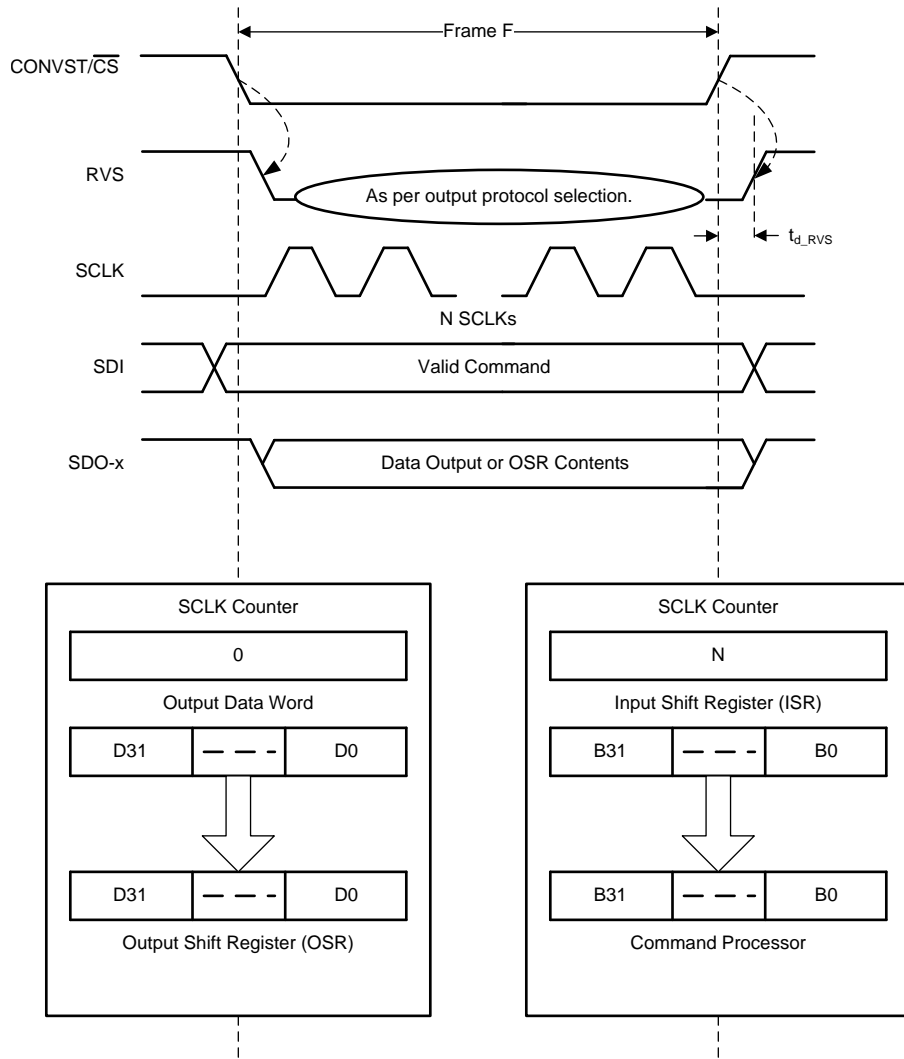

Figure 74. Data Transfer Frame
A data transfer frame between the device and the host controller begins at the falling edge of the CONVST/ $\overline{CS}$  pin and ends when the device starts conversion at the subsequent rising edge. The host controller can initiate a data transfer frame by bringing the CONVST/ $\overline{CS}$  signal low (as shown in Figure 74) after the end of the CONV phase, as described in the CONV State section.
- The device takes control of the data bus. As illustrated in Figure 74, the contents of the output data word are loaded into the 32-bit output shift register (OSR).
- As illustrated in Figure 74, the contents of the input shift register are transferred to the command processor for decoding and further action.